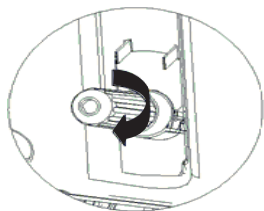

Fig. 8
4. You should hear a clicking sound. This signals that the cartridge seal was pierced when the sheath was screwed back onto the cover, enabling the gas to flow into the keg (Fig. 8).